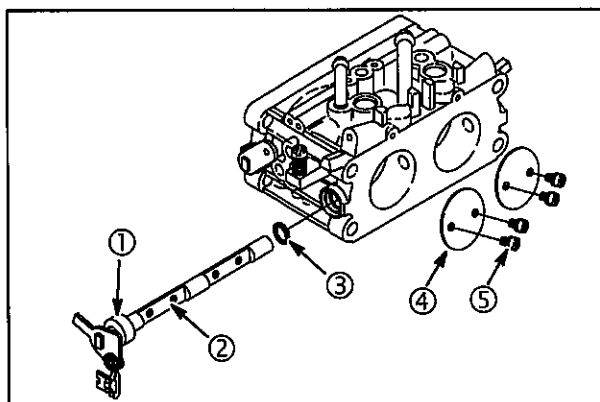

Fig. 68
1. Install new throttle shaft seal (3) with sealing lip out, **Fig. 68**.
2. Install throttle shaft (2) with spacer (1).